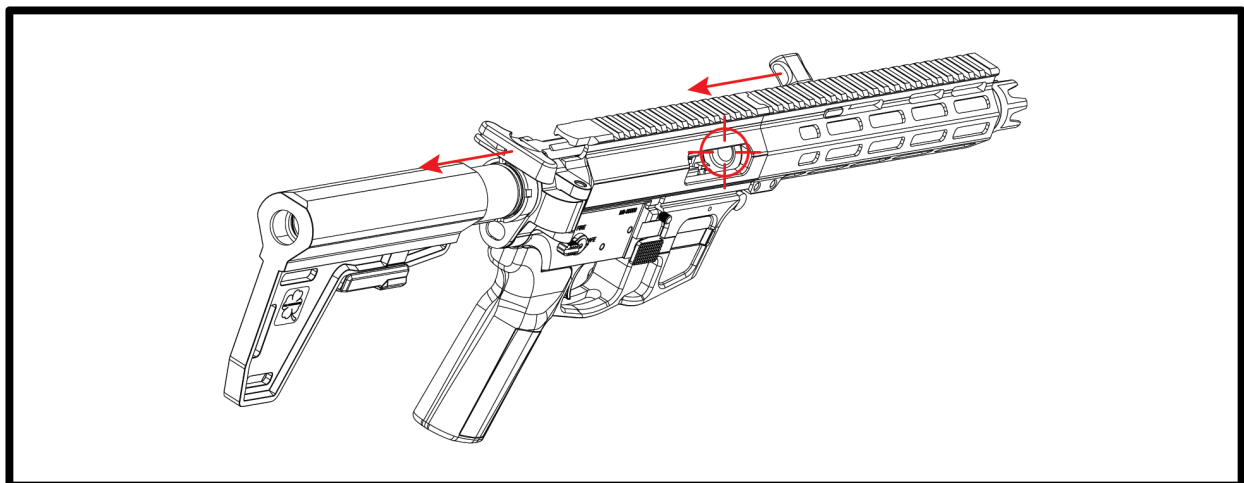

FIGURE 6.2 - Verify that the chamber is empty
3. Verify that the chamber is empty. (FIGURE 6.2)